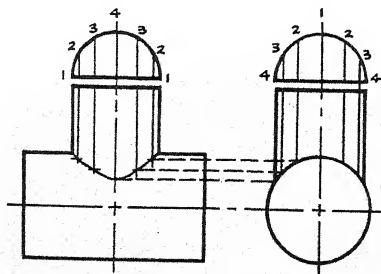

Figure 258.—Transferring elements to obtain miter line.
3. Draw the plan view above the constructed elevations (see figure 258).